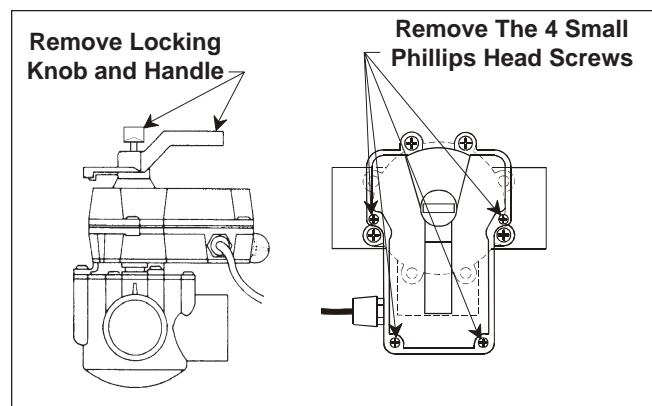

Figure 4. Remove Locking Knob and Lid Screws
1. Unscrew (counterclockwise) the locking knob. Remove the locking knob and valve handle (see Fig. 4).
2. Remove the four (4) large Phillips head screws from the valve. Which screws you remove depends on how the actuator is to be mounted (see Fig. 4).